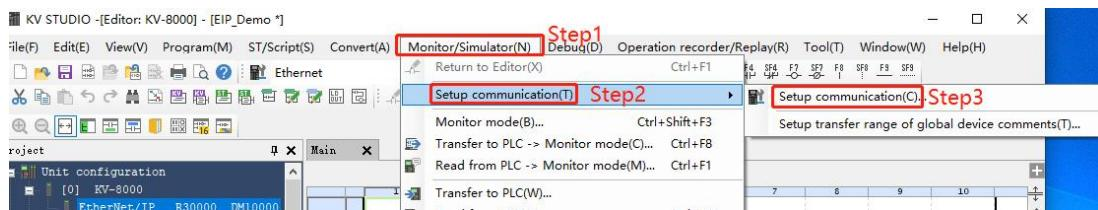
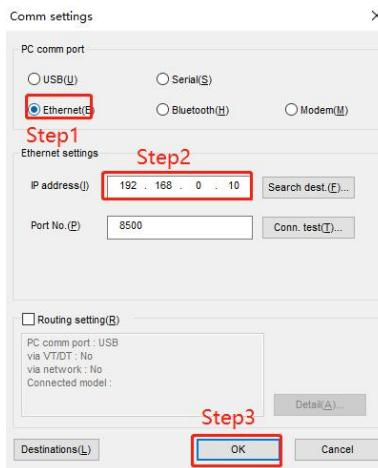

Figure 5-1-10
Figure 5-1-11
- As shown in Figure 5-1-10 to Figure 5-1-11, set the IP address of KV-8000 on the configuration software. In this example, the IP address of PLC is 192.168.0.10.